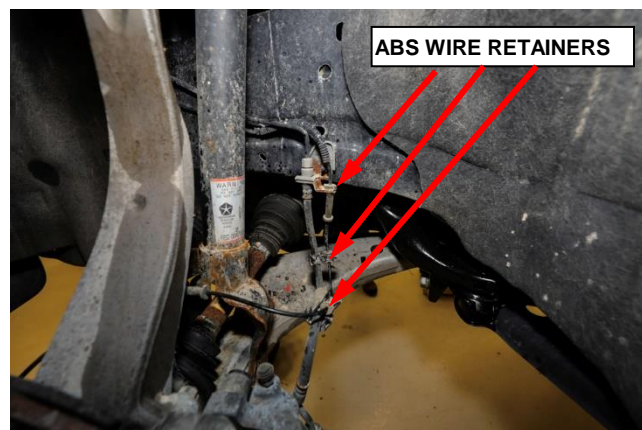

Figure 19 – ABS Wire Retainers
39. Disconnect the three ABS wire retainers on each side. Set the wires aside (Figure 19).